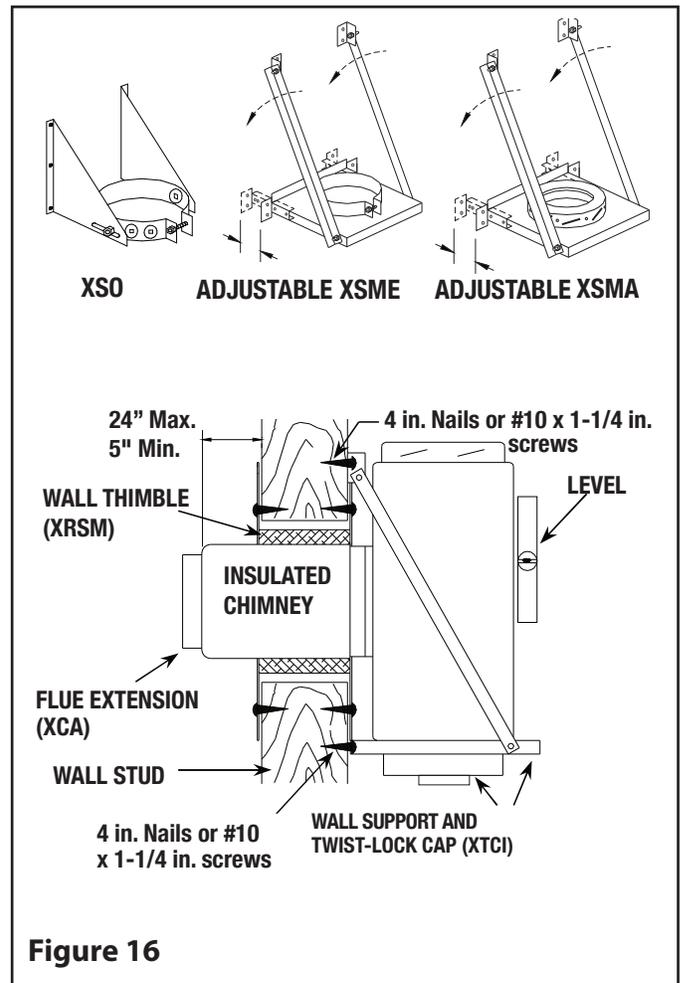

Figure 16
4. **IMPORTANT:** To ensure minimum clearances to stovepipe, the insulated pipe length (passing through the wall) must project beyond the inside wall by a minimum of 5". The maximum projection length is 24". See Figure 16.
Step 5. Attach the clean out cap to the support or directly to tee bottom depending on configuration. (see Figures 16) The cap is in the box with the insulated tee.
Step 7. This step will require 2 people: (See Figure 16). Insert the chimney length of this tee-support assembly into the frame opening in the wall. Using a level, ensure the tee is vertical, then attach the support to the wall using (8) N°. 10 x 1 - 1/4" wood screws or 4" spiral nails.
Step 8. From inside attach the flue extension (XCA) to the horizontal chimney length (**see Figure 16**).